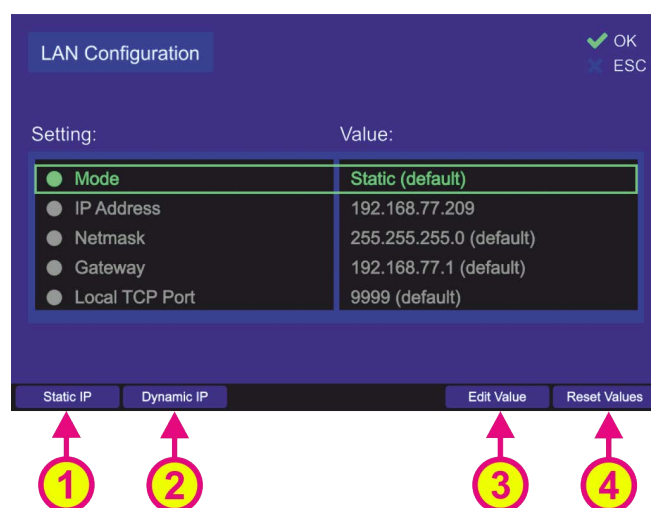
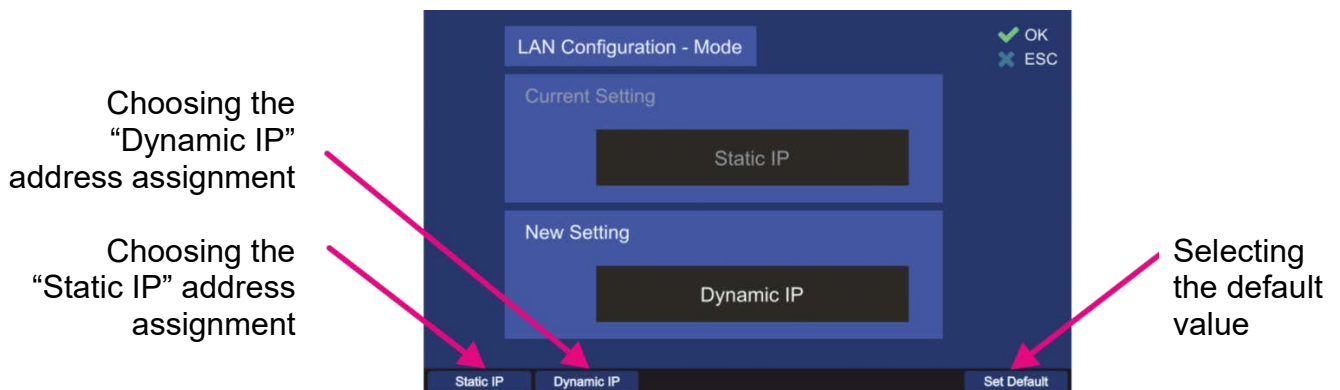

Fig. 145 LAN configuration menu
Fig. 146 Changing the mode of the IP address assignment
Following sub-menu will appear (s. Fig. 145).
Pressing the hotkey “Reset Values” (s. Fig. 145, position 4) will set all menu items to the default values.
- o IP address assignment can be changed directly using the hotkeys “Static IP” and “Dynamic IP” (positions 1 and 2, s. Fig. 145), so that the value of this setting is changed without opening the dialog, or it can be set over the corresponding dialog after pressing the hotkey “Edit Value” (s. Fig. 145, position 3) while this menu point is marked, the following dialog opens (s. Fig. 146).
- Choose the new setting using one of the hotkeys (s. Fig. 146), which will then appear in the “New Setting” field.
- For changing the IP address press the hotkey “Edit Value” while this menu point is marked (s. Fig. 145, position 3).
- For changing the netmask press the hotkey “Edit Value” while this menu point is marked (s. Fig. 145, position 3).
- For changing the gateway press the hotkey “Edit Value” while this menu point is marked (s. Fig. 145, position 3).
- For changing the port press the hotkey “Edit Value” while this menu point is marked (s. Fig. 145, position 3).